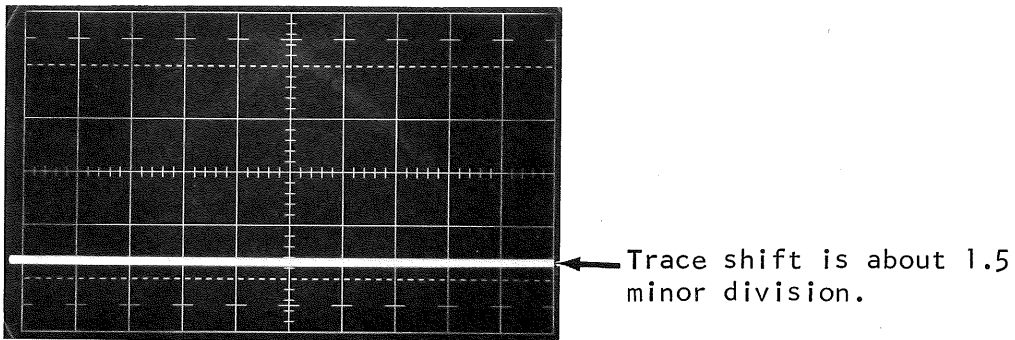

Figure 2-50
12. On the 3T77, set the TRIGGER SENSITIVITY control full CCW. Check for 4 divisions or less of trace shift in 10 seconds. See Figure 2-50.